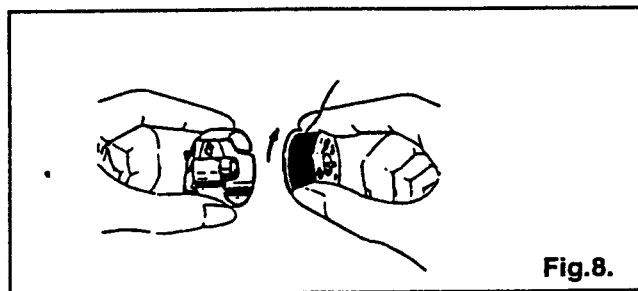

Fig. 8.
1. Hold bobbin case so that thread unwinds in the direction shown in Fig. 8. and put bobbin in bobbin case.